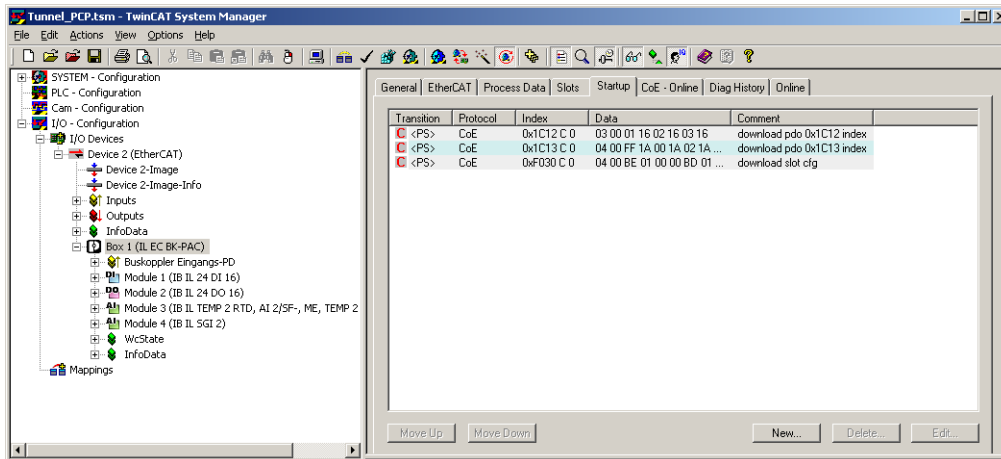

Figure 11 Startup window for storing the startup parameterization
- Standard parameterizations may already be available as shown in Figure 11.